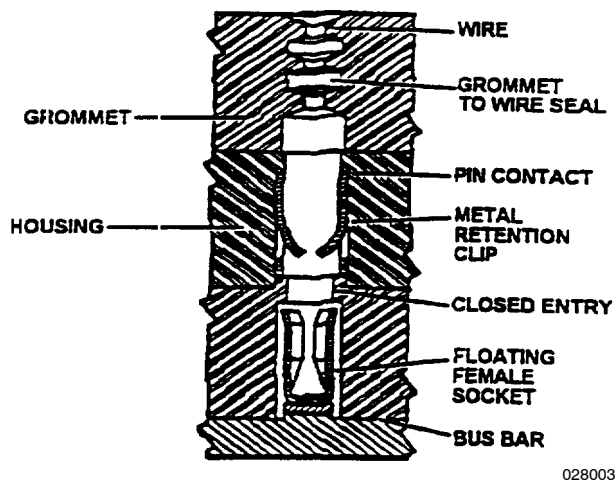

Figure 3. Internal Contact
15. **INTERNAL CONTACT.** Internal contact is the non-removable contact contained in the TJS components (Figure 3).